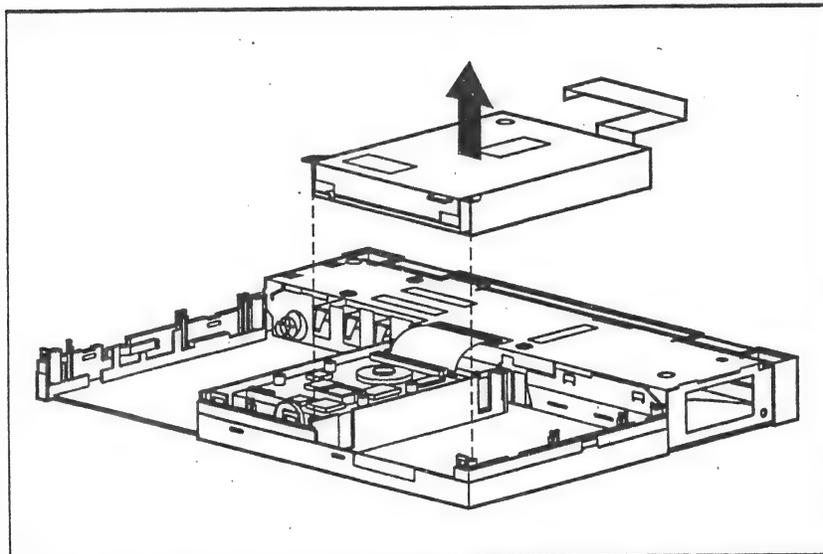

Figure 2-47. Removing the Diskette Drive
3. Carefully lift the diskette drive out of the CPU base (Figure 2-47).